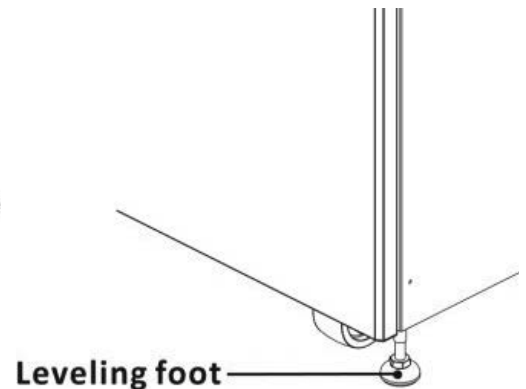

Figure 2-4
- 5 - To fix the cabinet in position, simply rotate leveling feet clockwise. Refer to Figure 2-4.